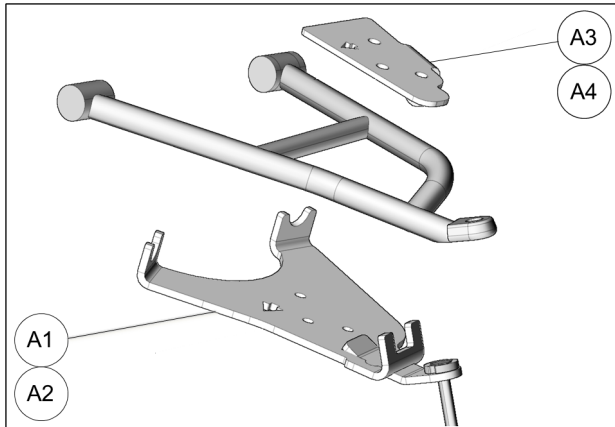

Fig. 21
10. Position bottom part of anchor bracket (A1-A2) under lower suspension arm. Position top part (A3-A4) over suspension arm. See Fig. 21